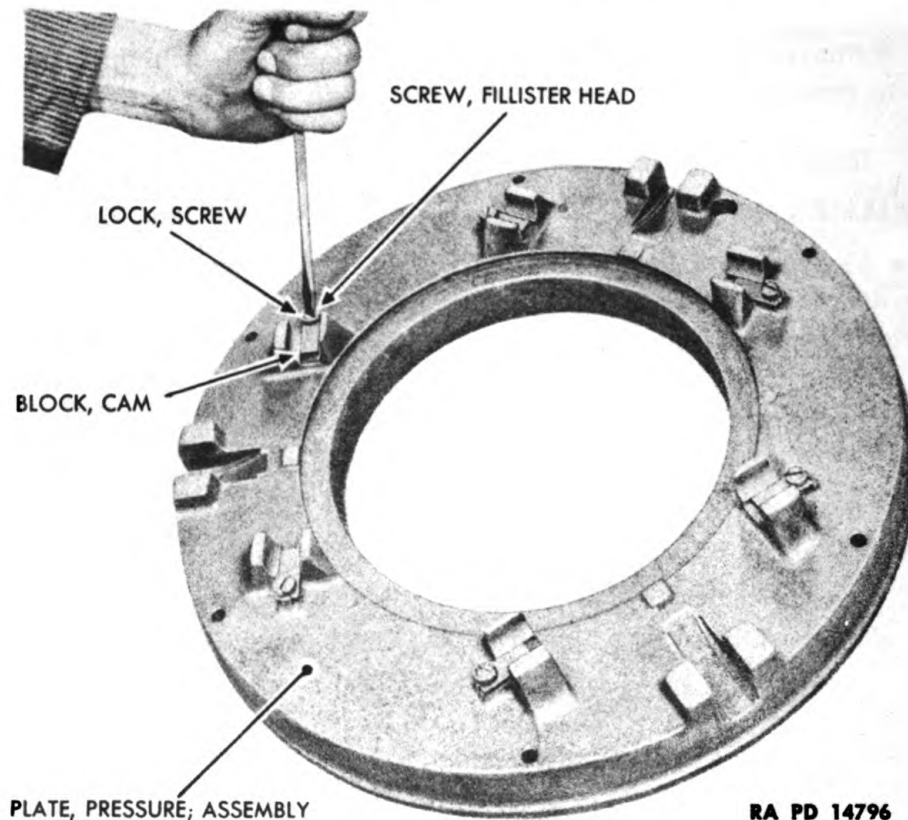

Figure 22 — Cam Block Removal from Pressure Plate Assembly
- (8) REMOVE CAM BLOCKS FROM PRESSURE PLATE ASSEMBLY (fig. 22).